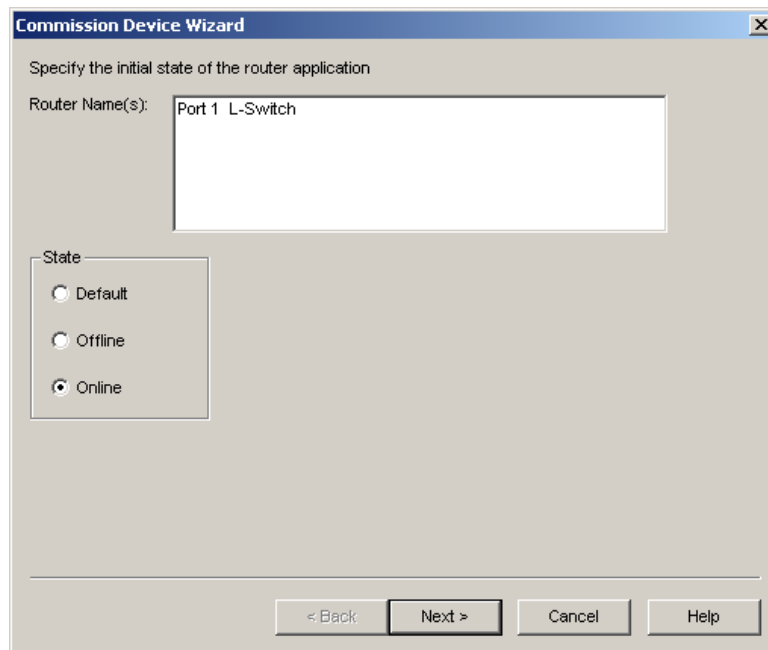

Figure 5: Commission Device dialog
6. In the appearing dialog set the state to “Online” and select “Next>” (see Figure 5).